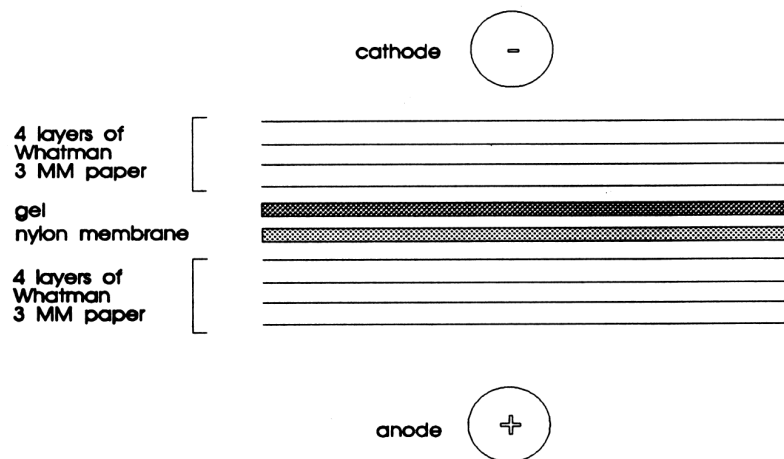

Fig. 1: Diagram of a sandwich between electrodes during electroblotting.
- 8 Place resulting sandwich between the electrodes of the electroblotting device (see Figure 1).